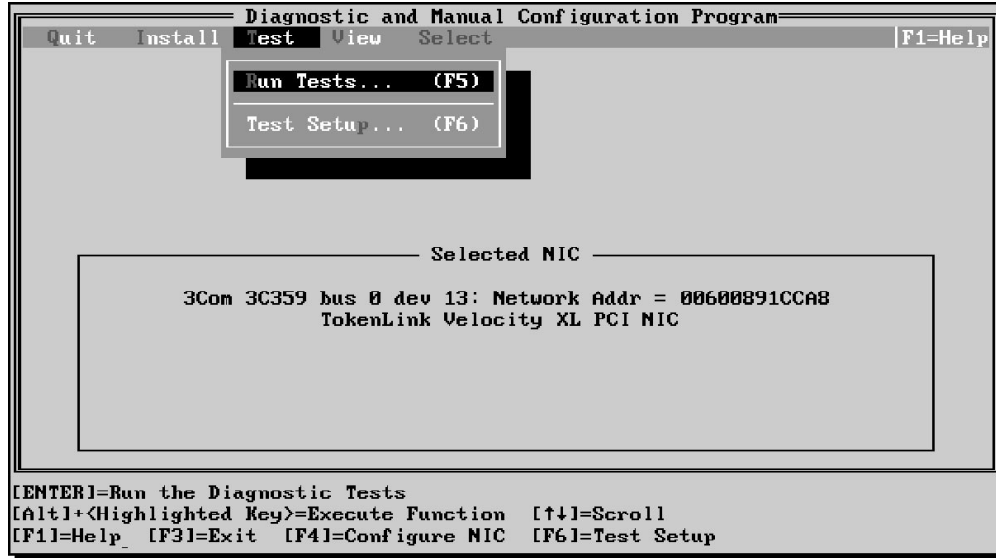

Figure 3-1 Configuration and Diagnostic Program Window
The Configuration and Diagnostic Program window is displayed as shown in Figure 3-1.
- 4 **Record for future reference the 12-digit universal token ring address displayed on the Diagnostic and Configuration Program window (Figure 3-1). For example:**